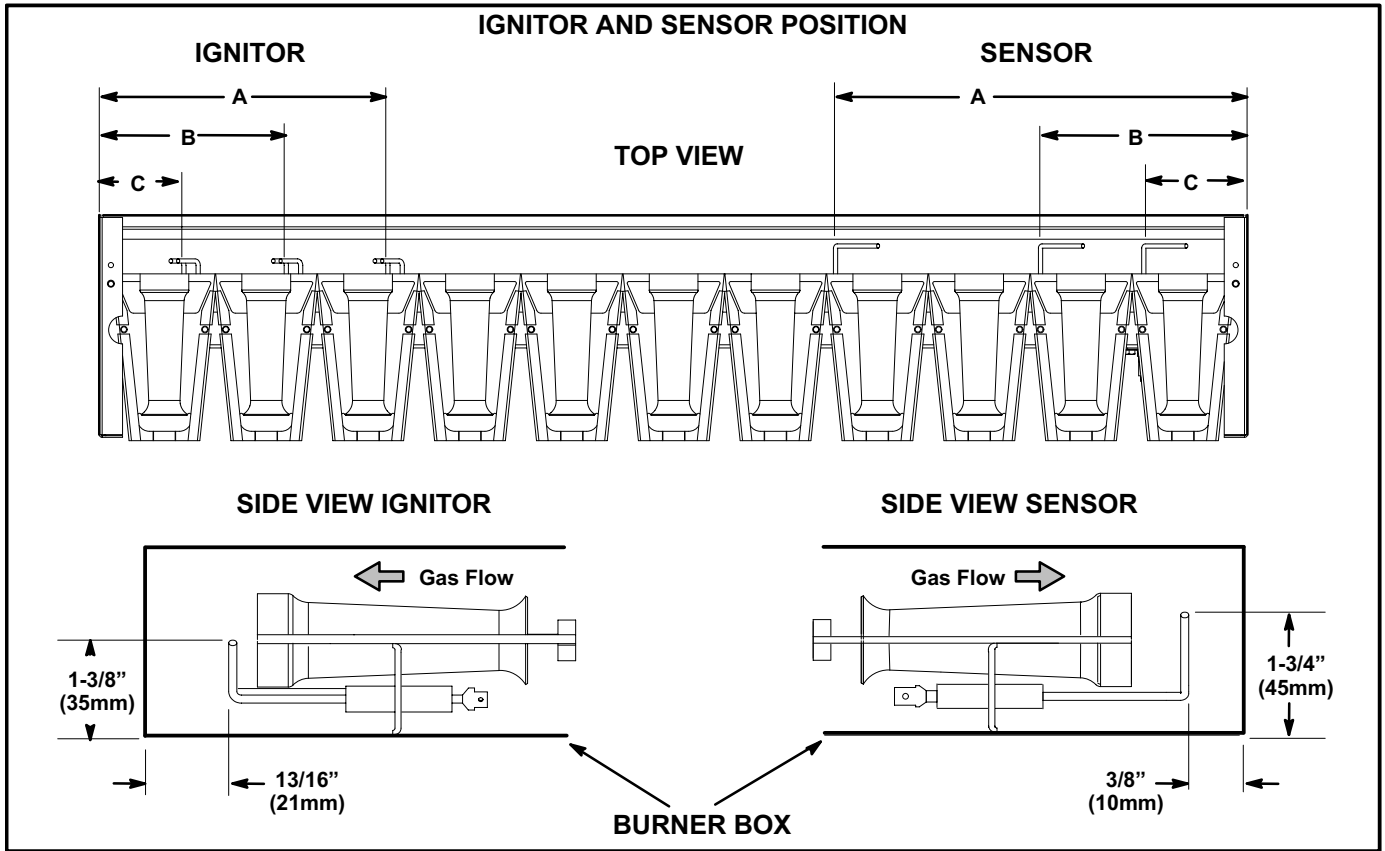

FIGURE 20
- 5- Check the alignment of the ignitor and the sensor as shown in figure 20 and table 17.